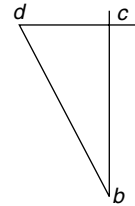

Figure 4.13
The reaction  $R_2$  can be determined by considering joint (2), i.e. joint  $BCD$ , as shown in Figure 4.13, where the vector  $bc$  represents the unknown reaction  $R_2$  which is measured as 2.18 kN.